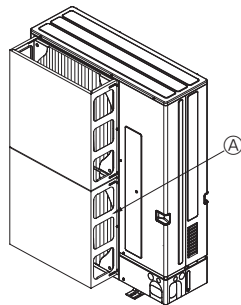

Fig. 4-4
- ② Install an optional air guide if the unit is installed in a location where strong winds from a typhoon, etc. may directly enter the air outlet. (Fig. 4-4)